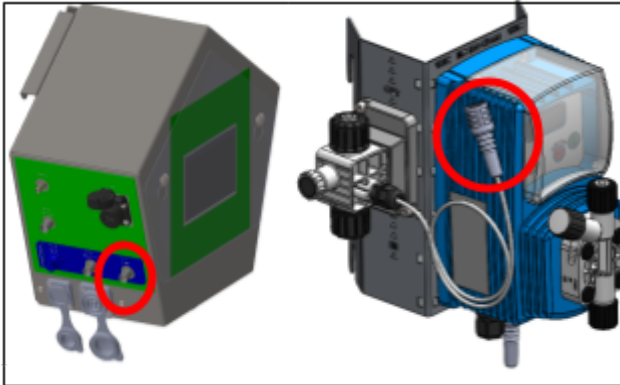

Figure 31.
7. Connect the flow-control cable to "Flow check" (see Figure 31 for the connection point and schematic diagram of the flow-control).